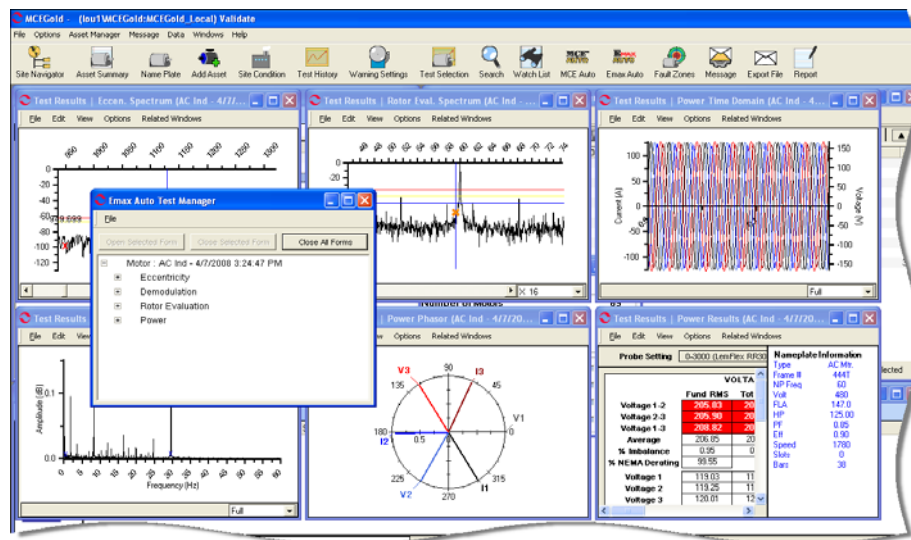

Figure 6-17: EMAX Auto Test Results Windows
8. At the end of testing you will be informed the test data is being saved and the forms loaded. It may take a few minutes depending on the speed of your computer processor. Then the six test results windows chosen during the test setup and an EMAX Auto Test Manager window will open. See Figure 6-17.